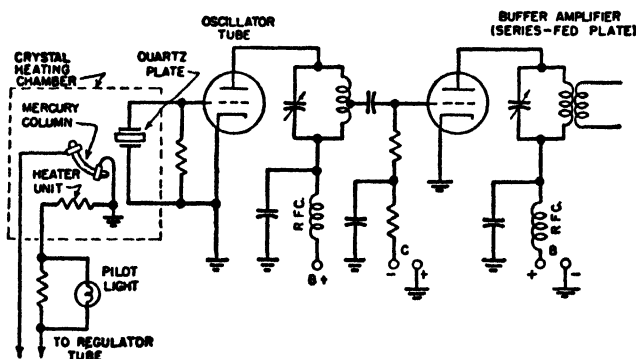

FIG. 4-13.—Crystal-controlled oscillator with temperature-control unit and radio-frequency amplifier.
**Ans.** Figure 4-13 illustrates a crystal oscillator with temperature-control chamber coupled to one stage of radio-frequency amplification.